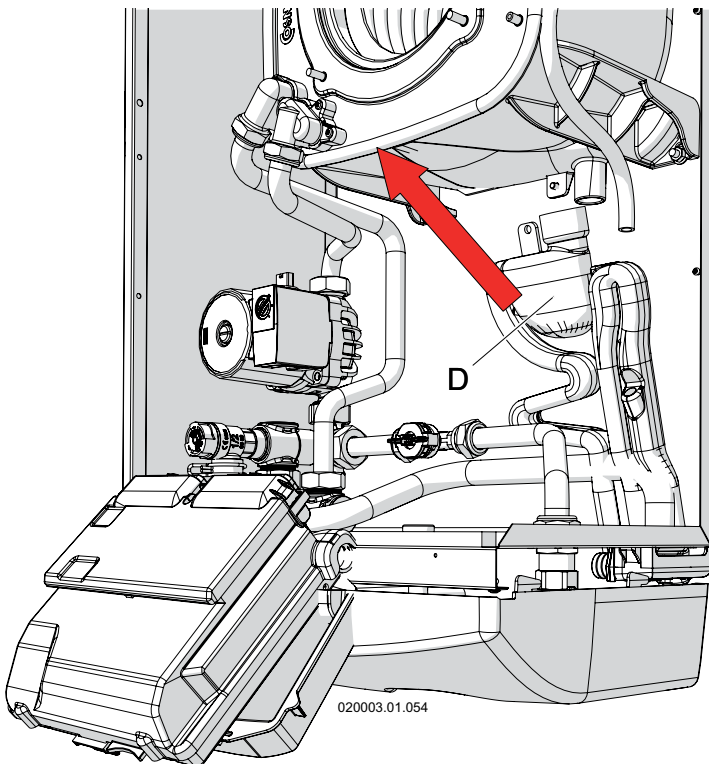

Figure 8-5 - Removing condensate collection siphon
- 1.- with the appliance on, open a domestic hot water tap or taps fully to force the burner to its maximum power and the level of the liquid present inside the siphon tank "D" lowers (see figure 8-5);
- 8.- extract the siphon outwards (see figure 8-5) paying attention to disconnect the collection pipes of the water coming from the upper part of the appliance and from the air vent valve.